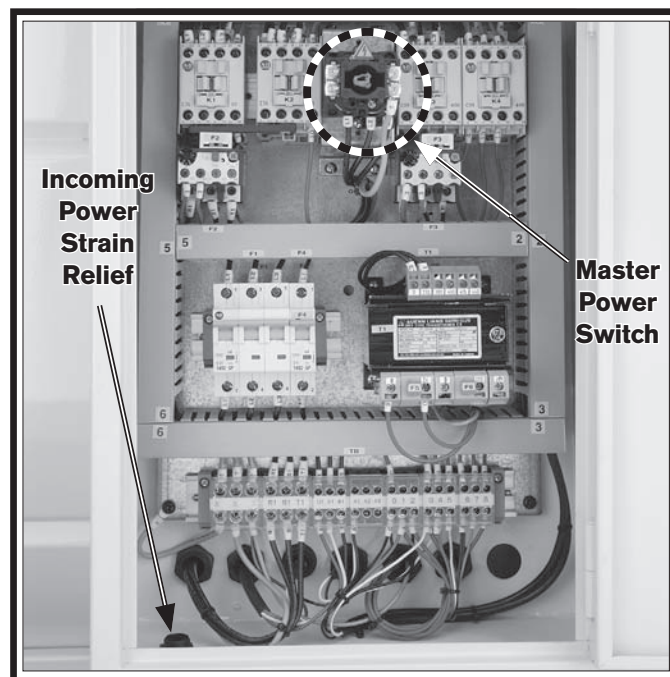

Figure 21. Location to connect power inside main electrical cabinet.
2. Thread the power cord through the strain relief, and up to the master power switch shown in **Figure 21**.